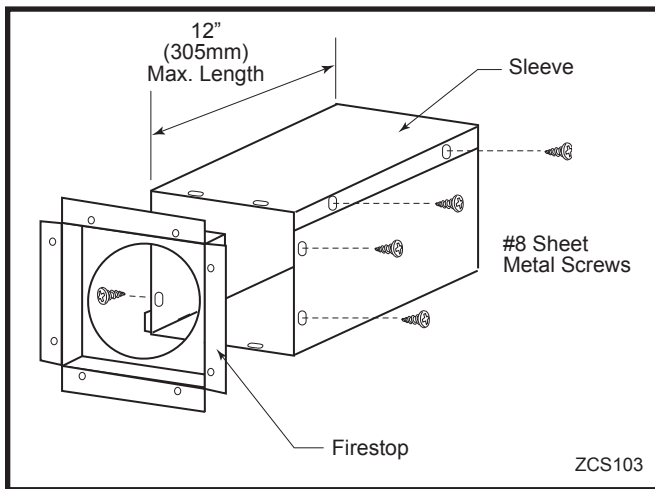

Fig. 25 Assemble the wall sleeve and firestop.
2. Measure the wall thickness and cut the wall sleeve sections to proper length (MAXIMUM 12"). Assemble the sleeve with the #8 sheet metal screws supplied. Attach the firestop plate to the sleeve end with the holes. (Fig. 25) **NOTE:** The wall sleeve is required in combustible walls only.
3. Install the Wall Firestop/Sleeve assembly into the wall cutout and fasten the firestop to the wall cutout framing members. (Fig. 25)